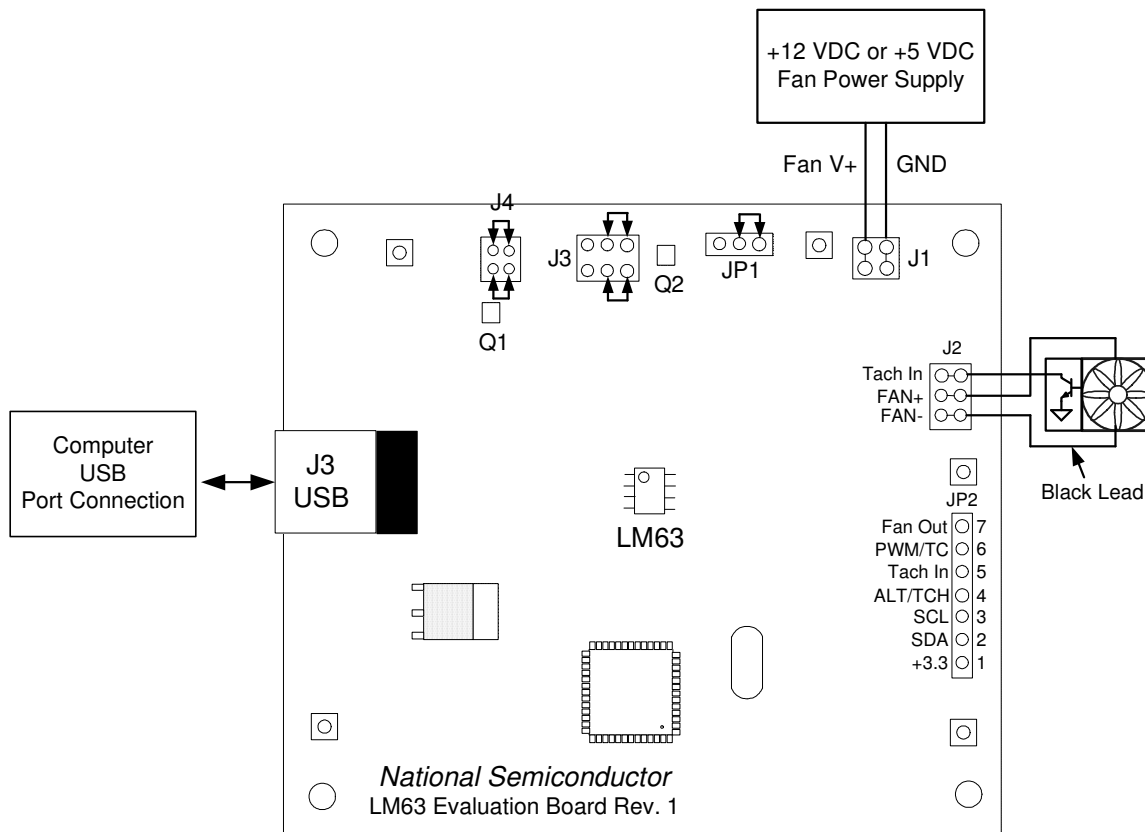

Figure 2. Test Setup using the LM63 Evaluation Board
Figure 2 below shows an example of a typical LM63 Evaluation Board test setup for driving fans, attaching remote diodes, and monitoring the system.
2. Connect the power supply to the LM63 Evaluation Board header J1 as shown in Figure 2. Make sure that the positive terminal is connected to V+ and the negative terminal is connected to the GND of J1.
3. Plug in the fan as shown in Figure 2. This pinout is standard for PC processor fans.